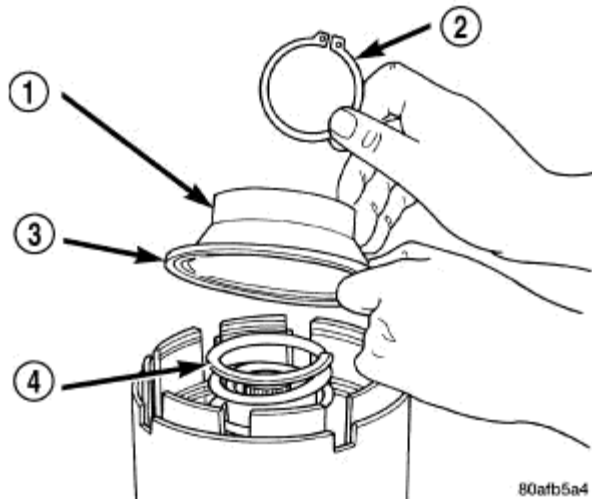

Fig. 235: UD Return Spring & Retainer
11. Refer to **Fig. 235** as necessary when performing the following steps.